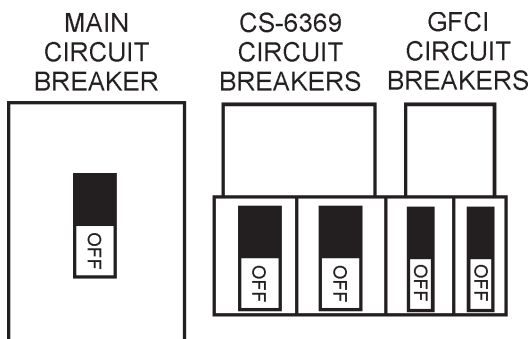

Figure 38. Main, Aux. and GFCI Circuit Breakers (OFF)
- Place the **main, G.F.C.I.,** and **aux.** circuit breakers (Figure 38) in the **OFF** position prior to starting the engine.